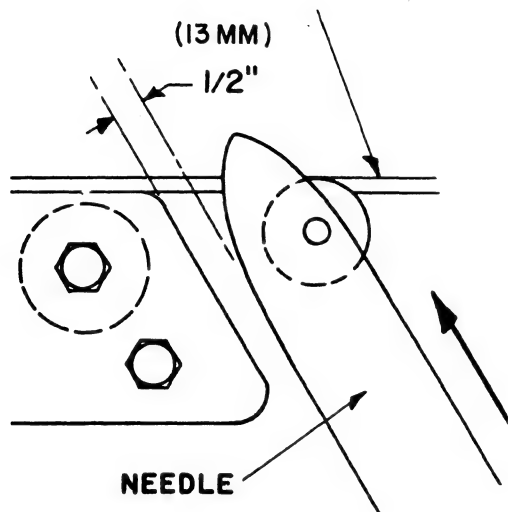

FIGURE 111
The clearance between the tip of the needle and the end of the wire guide and roller assembly should be $\frac{1}{2}$ " (13 mm) as the needles enter the bale chamber as shown in Figure 111. This can be adjusted by loosening the mounting bolt and sliding the wire guide and roller assembly forward or backward as required.
- b. The clearance between the tip of the needle and the end of the wire guide and roller assembly should be $\frac{1}{2}$ " (13 mm), as shown in Figure 111.